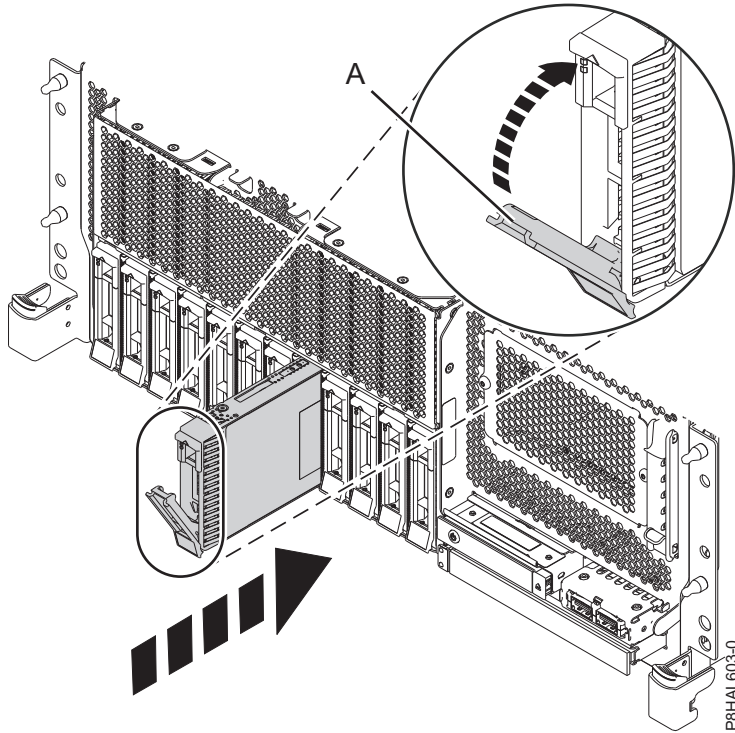

Figure 93. Replacing a disk drive in a rack-mounted base function system
4. Unlock the drive bay handle (A) by pressing it and pulling it out toward you. If the handle is not all the way out, the drive does not slide into the system. See Figure 93 on page 102, Figure 94 on page 102, Figure 95 on page 103 and Figure 96 on page 104.
9. When the identify LED turns on solid, slide the drive all the way into the system, and push in the drive handle (A) until it locks, as shown in Figure 93 on page 102, Figure 94 on page 102, Figure 95 on page 103 and Figure 96 on page 104.